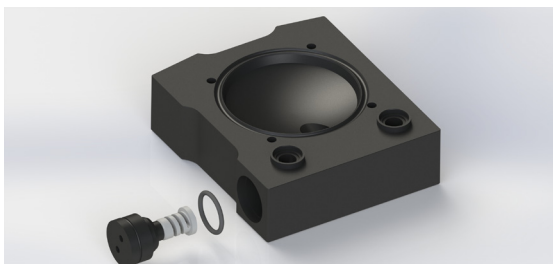

Figure 24
Place an o-ring (14) on the top edge of the valve seat (12) then screw in valve plug (9) with the spring loaded valve (10). Screw in plug flush to side housing top surface (see figure 24 and 25).